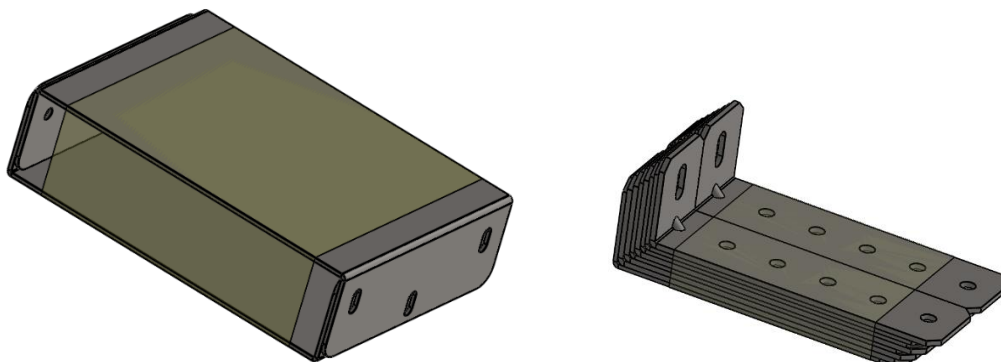

Figure 1 PROJECTION BRACKET PACKAGES
1. Find two packages of Projection Mount Brackets, and a bag with screws, nuts and Velcro strips. (Figure 1 PROJECTION BRACKET PACKAGE)